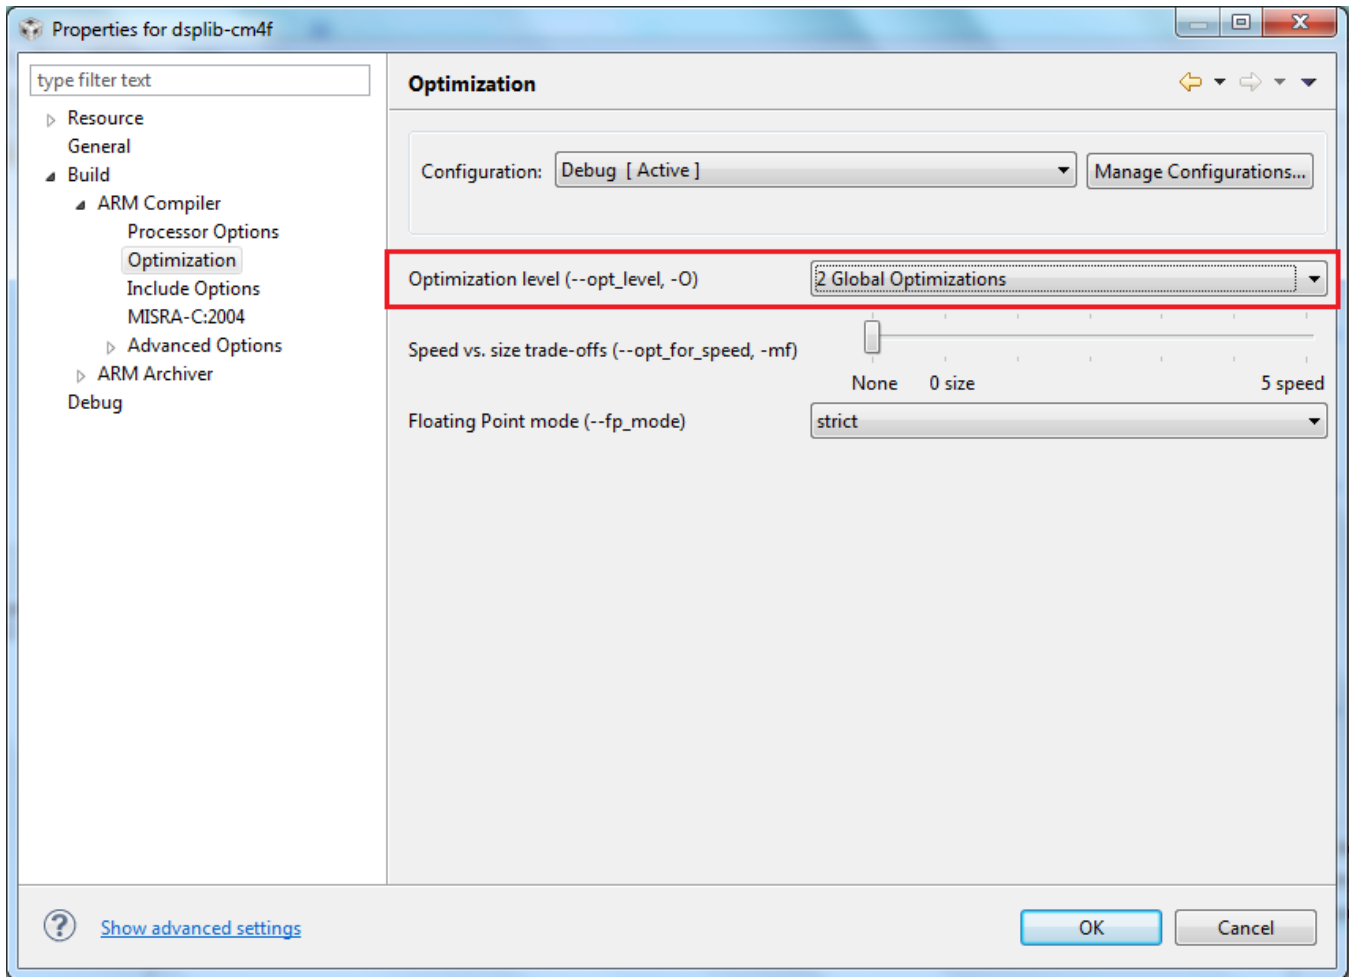

Figure 6. The Proper Optimization Settings for Compiling the DSP_Lib Source Code
4. Click the *Optimization level* (`--opt_level, -O`) drop-down menu in the Optimization panel and select 2 (see Figure 6).